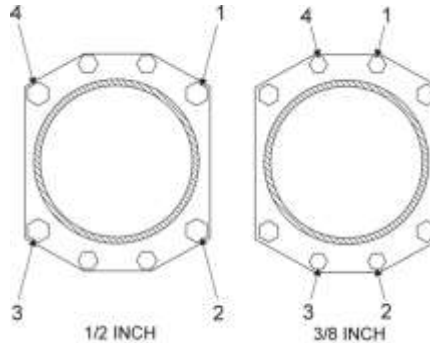

Figure 30
- (1) Torque the 1/2 in. nuts to 25 ft.-lb. (34 Nm) in the sequence shown in Figure 30.
- (2) Torque the 1/2 in. nuts to 50 ft.-lb. (68 Nm) in the sequence shown in Figure 30.
- (3) Torque all 3/8 in. nuts to 25 ft.-lb. (34 Nm) in the sequence shown in Figure 30. The torque sequence for these nuts is optional.
- (4) Use the same sequence shown in Figure 30, complete a torque check to 50 ft.-lb. (68 Nm) for all 1/2-in. nuts on the cylinder base studs.
- (5) Tighten both ends of the free thru-studs at the same time at the all locations. Make sure all thru-studs have at least 1-1/2 threads above attaching nuts at both ends.
- (6) Make sure all cylinder base hold-down nuts are torqued. Complete a torque check of all nuts on the cylinder base using the torque wrench to apply the appropriate torque on each nut for 5 seconds. If the nut does not turn, it is correctly torqued.
- (7) Apply torque seal to all cylinder hold-down nuts where the nut contacts the barrel.